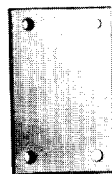

Fig. 57 Track Spacer
- (d) Install one, two, or three track spacers (Fig. 57), as necessary, with four (4) .25" x .125" (6.35mm x 31.75mm) self tapping screws behind both track assemblies.
- (e) With each track at necessary and equal height, tighten the eight (8) .25" (6.35mm) mounting screws in each track assembly.